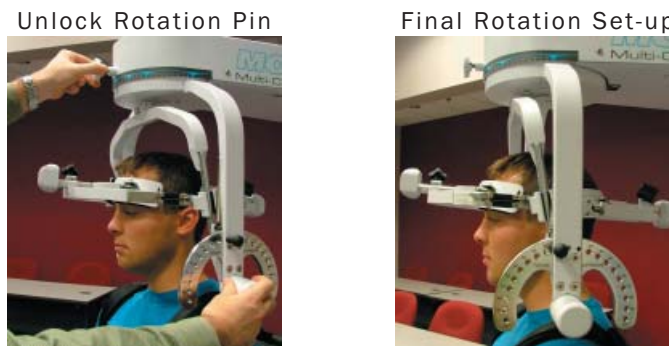

Figure 6-17. Unlocking Rotation Pin and Final ROM L/R Rotation Set-up
Step 13. While holding onto the side of the halo, unlock the rotation pin, which is located at the top middle of the halo, before performing the test (Figure 6-17).